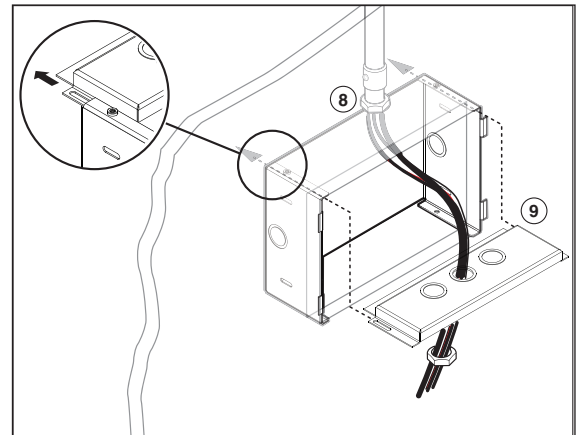

Figure 2
8. Secure one or more conduits to one of the endplates. There are punch-outs in the top and bottom endplates (see figure 2).
9. Slide the endplates into the gap between the back of the U-plate and the top flanges on the side of the U-plate (see inset in figure 2). The endplate must pass the drywall so that it can be pushed up behind it.